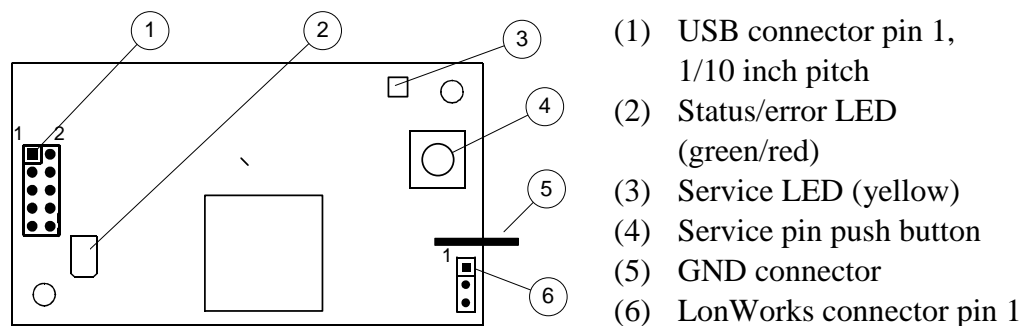

Figure 1-2 Module components shown for FTX variant
The service LED (Figure 1-2, (3)) signals the card status. The following signals are defined the service LED:
Pin 1 position cf. Figure 1-2